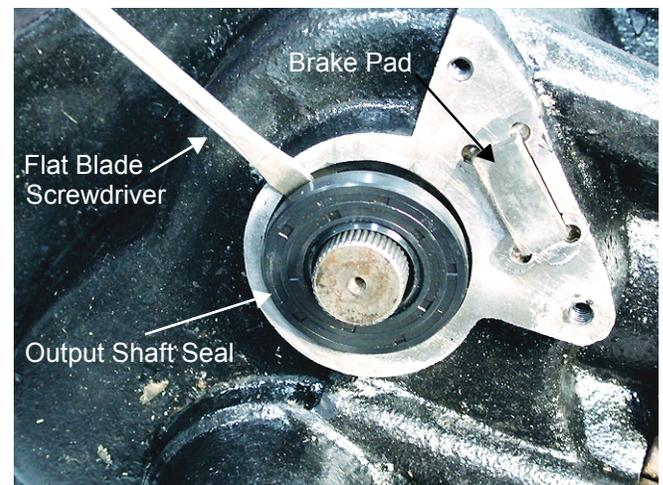

Figure 8
- Remove the output shaft seal from the right transmission case using a flat blade screwdriver. See Figure 8.